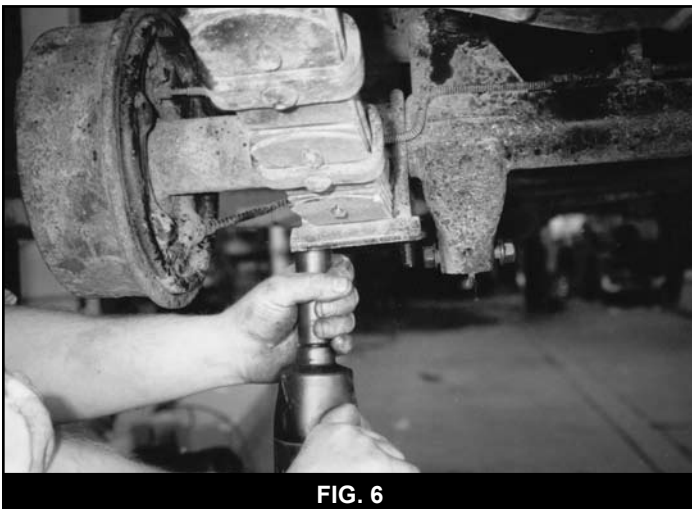

FIG. 6
22. Position u-bolt plates and install the new u-bolts, washers and nuts along with the new bump stop contact extensions. These are retained by the outer u-bolts. **Note:** *BDS 3.5" YJ box kit #014350 includes these. The 2" BDS system, box kit #014200, does not require or include bump stop contacts.* (Fig. 6)